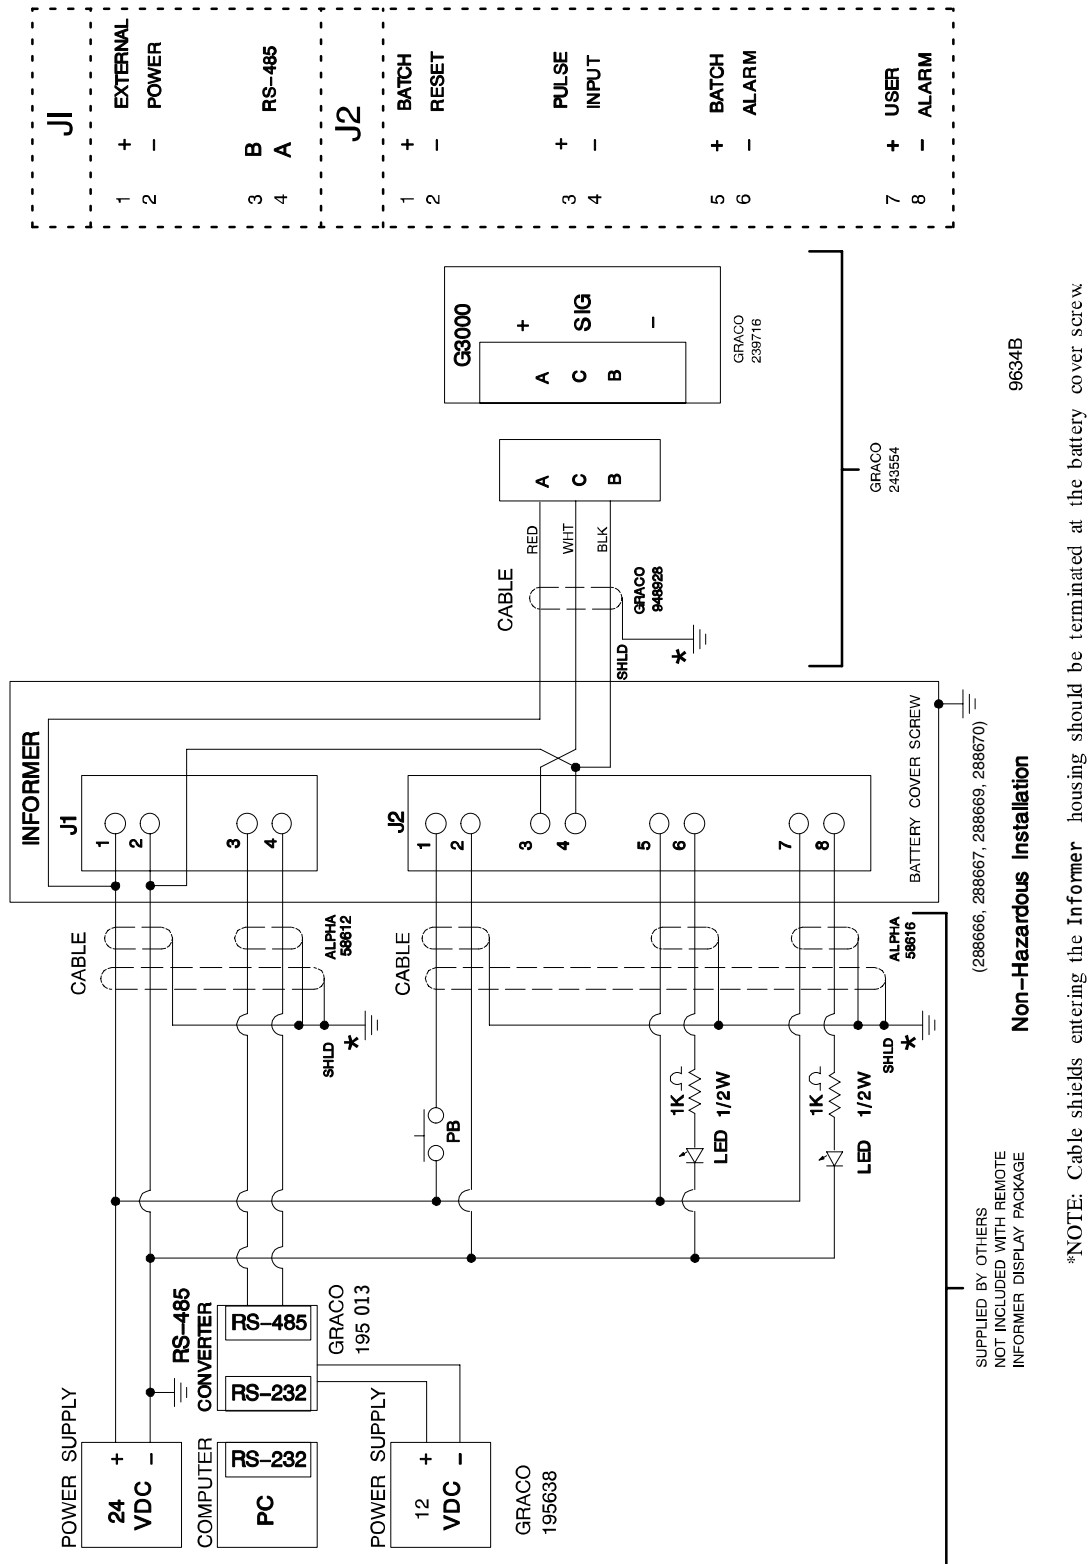

Fig. 3
- To install a flow meter and display in a non-hazardous area, refer to Fig. 3, page 9.
Connector J1 terminals are numbered 1 through 4. Connector J2 terminals are numbered 1 through 8. Terminal definitions and typical wiring connections are shown in figures 3 to 4 on pages 9 to 10.